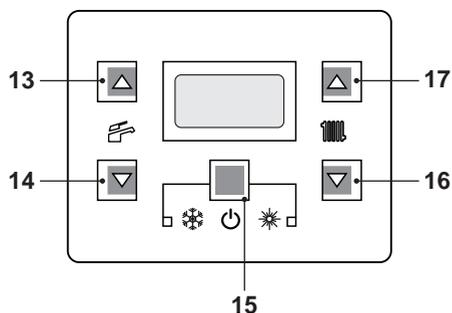
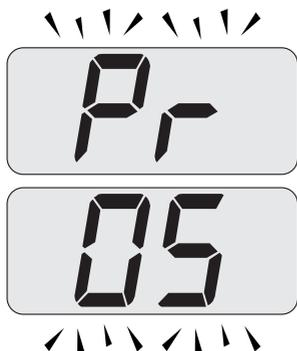

Fig. 8.3
Fig. 8.5
- Enter in "programming mode" by pressing keys 15 - 16 - 17 (Fig. 8.3) for 10 seconds at the same time until the letters Pr that alternate with code 01 are displayed on the LCD display, indicating that "parameter 01"(Fig. 8.4) has been activated.
- Press keys 15 and 17 (Fig. 8.3) at the same time until the value of parameter 05(00=G20) is displayed on the LCD display (Fig. 8.6).
- Scroll the various parameters using keys 16 or 17 until the letters **Pr** that alternate with code **05** are displayed on the LCD display, indicating that "parameter 05"(Fig. 8.5) has been activated.
- By pressing key 17 three times, it is possible to change the value of parameter 05 from **00**=G20 to **05**=G31, which is ok for LPG gas.
- By pressing key 15 (Fig. 8.3) confirmation of the inserted value is obtained.
- Press keys 15 and 16 (Fig. 8.3) at the same time to exit without changing the value (return to the parameters list Fig. 8.5)
- Press keys 15 - 16 - 17 (Fig. 8.3) at the same time for 10 seconds to exit the "programming mode".